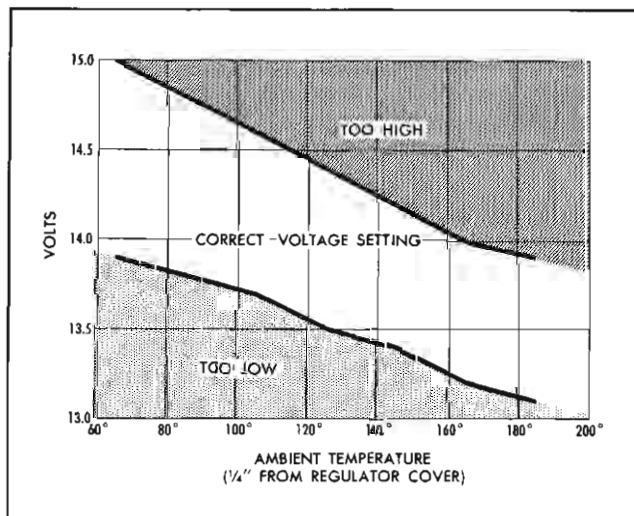

Fig. 11-29 Temperature Correction Chart
The voltage at which the regulator operates varies with changes in regulator ambient temperatures (Fig. 11-29). The ambient temperature is the temperature of the air measured  $\frac{1}{4}$  of an inch from the regulator cover.
d. Bring engine speed up to 2500 rpm (approximately 6000 alternator rpm) and note the voltage setting (refer to Fig. 11-29). The regulator should be operating on the upper or shorting contacts. If it will not operate on the upper contacts, the battery is in an extreme state of discharge, and must be at least partially re-charged before proceeding. The methods of identifying upper or lower contact operation is covered in Step 9.
9. After making the voltage setting while operating on the upper set of contacts, check the voltage setting while operating on the lower set of contacts as follows: Slowly increase the resistance of the variable resistor with the engine operating at 2500 rpm (approximately 6000 alternator rpm) until the regulator begins to operate on the lower set of contacts. Then note the voltage reading, and refer to Fig. 11-29. **NOTE:** If turning the variable resistor does not cause the regulator to operate on the lower set of contacts, return variable resistor to the "no resistance" position, turn
by water consumption exceeding one ounce per cell each 1000 miles). In order to obtain the desired setting, tailor the voltage regulator setting. To properly tailor voltage, refer to Fig. 11-29 and use a magnetic thermometer to measure regulator temperature. If magnetic thermometer is not available, a regular thermometer should be held with bulb  $\frac{1}{4}$ " from regulator cover.